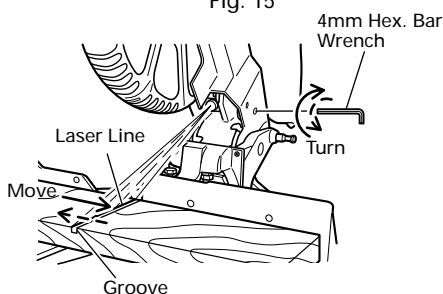

Fig. 16
- (2) Then insert a 4mm hex. bar wrench in the 12 diameter hole on the side of the gear case, turn the hex. socket set screw to move the laser line. (If you turn the Hex. socket screw clockwise, the laser line will shift to the right and if you turn it counterclockwise, the laser line will shift to the left.) When you work with the ink line aligned with the left side of the saw blade, align the laser line with the left end of the groove. (Fig. 16) When you align it with the right side of the saw blade, align the laser line with the right side of the groove.